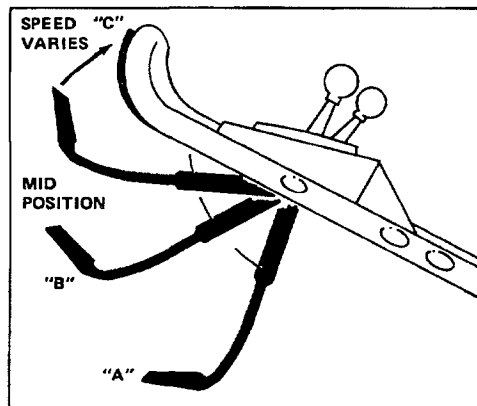

Figure 11
Note: For starting system break-in during first hour of operation, move control bar to position "A" (Fig. 11), then raise to mid position and hold while turning key.
5. **BLADE AND TRACTION OPERATION (Fig. 11)**— Move control bar down to "A" and raise to engage blade "B". Move ground speed control to desired setting and squeeze control bar against handle "C" to drive. Ground speed varies, depending on space between control bar and handle. To disengage traction drive, but keep blade engaged, gradually release control bar to mid position. To self-propel with blade disengaged, simply squeeze control bar against handle, eliminating downward movement necessary for blade engagement.